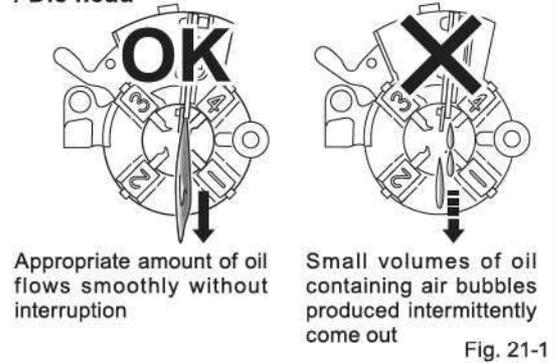

Fig. 21-1
- (2) Check that cutting oil flows as it should from the die head. (Fig. 21-1)